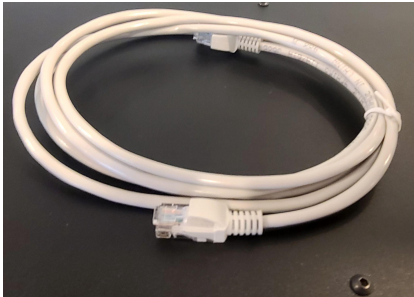

Fig. 10
1. The Titan came with an ethernet cable.(See Fig. 10)